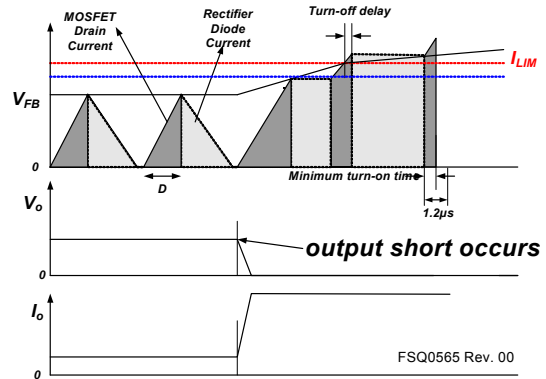

Figure 32. Output Short Waveforms
**4.3 Output-Short Protection (OSP):** If the output is shorted, steep current with extremely high di/dt can flow through the SenseFET during the LEB time. Such a steep current brings high voltage stress on the drain of SenseFET when turned off. To protect the device from such an abnormal condition, OSP is included in the FSQ-series. It is comprised of detecting  $V_{FB}$  and SenseFET turn-on time. When the  $V_{FB}$  is higher than 2V and the SenseFET turn-on time is lower than 1.2 $\mu$ s, the power switch recognizes this condition as an abnormal error and shuts down PWM switching until  $V_{CC}$  reaches  $V_{start}$  again. An abnormal condition output short is shown in Figure 32.